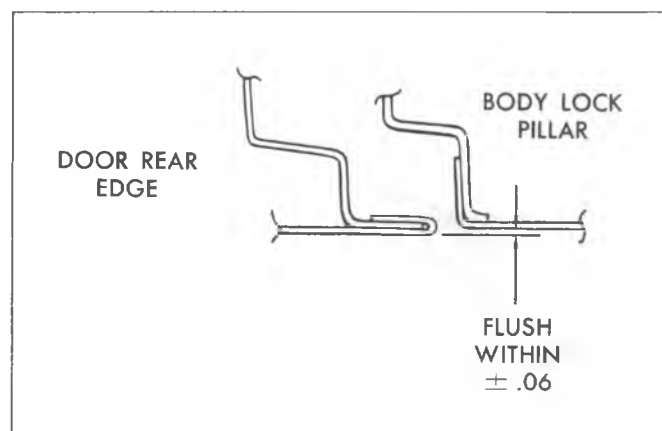

Fig. 45—Door Surface Adjustments (at Striker)
3. As an aid to striker adjustment, outline the striker in pencil or crayon for use as a base for adjustment. Horizontal slots are provided in the striker plate to position the striker assembly laterally so that the door outer surface is flush with the pillar surface at the door rear edge within 1/16" (fig. 45). Torque to specifications.